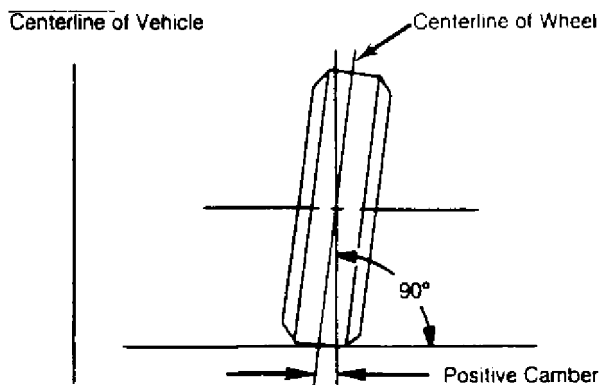

Fig. 3: Determining Camber Angle
- 1) Camber is the tilting of the wheel, outward at either top or bottom, as viewed from front of vehicle. See Fig. 3.